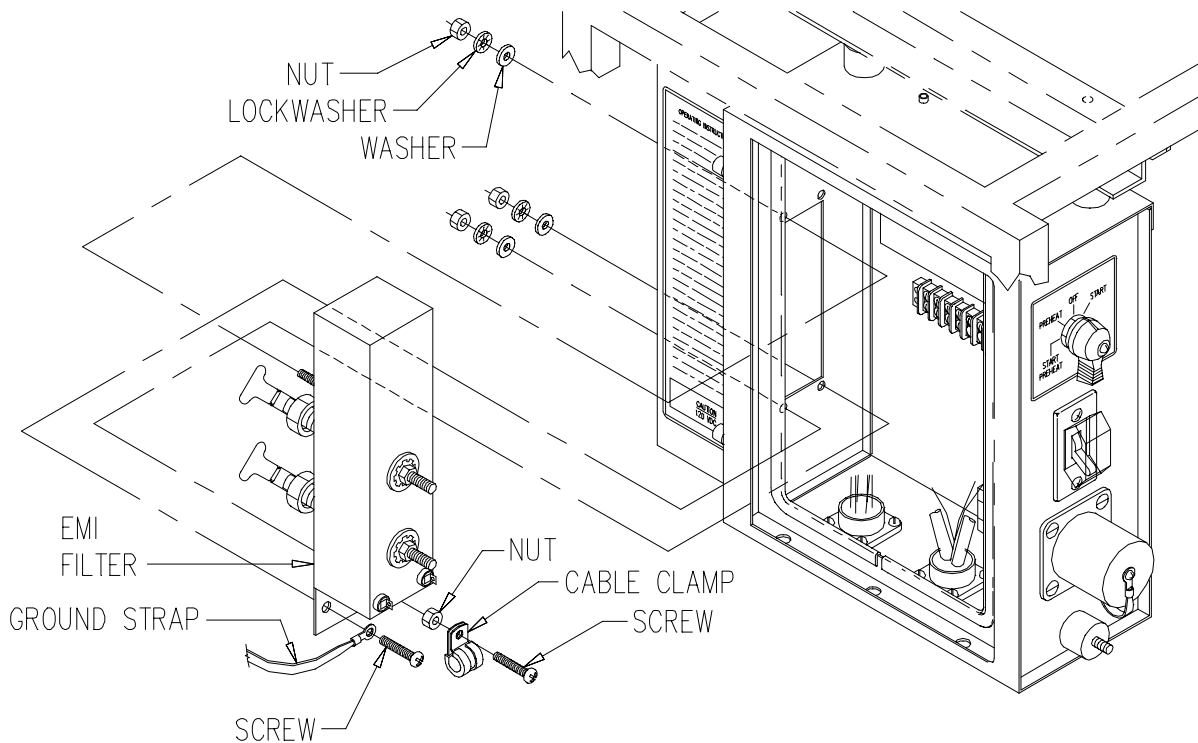

Figure 4-46. EMI Filter (MEP-531A)
- (1) Shut down generator set.
- (2) Release lug cover by turning two fasteners, open lug cover.
- (3) Disconnect load cables from EMI filter load terminals as necessary.
- (4) Release instrument panel by turning fastener, open instrument panel slowly.
- (5) Tag and disconnect two female quick-disconnects connected to bottom terminals on EMI filter (Figure 4-46).
- (6) Tag and disconnect one wire lead connected to "L" terminal and four wire leads connected to "N" terminal on EMI filter.
- (7) Remove screws, washers, lockwashers, and nuts securing bottom of EMI filter to control box. Note how instrument panel ground strap and wiring cable clamp are captured under the mounting hardware.
- (8) Remove nuts, lockwashers, and washers securing top of EMI filter to control box.
- (9) Remove EMI filter.
- (2) Release instrument panel by turning fastener, open instrument panel slowly.
- (3) Release lug cover by turning two fasteners, open lug cover.
- (4) Disconnect load cables from EMI filter load terminals as necessary.
- (7) Using multimeter set for ohms, check for open circuit across two upper EMI filter terminals "L" and "N". If not open, EMI filter is defective.
- (8) Repeat step (7) for "L" and "N" terminals that connect to the GFCI convenience receptacle (lower).
- (9) Using multimeter set for ohms, check for closed circuit across the lower "L" terminal (that connects to GFCI convenience receptacle) and load terminal "L". If not closed, EMI filter is defective.
- (10) Repeat step (9) for the lower "N" terminal (that connects to GFCI convenience receptacle) and load terminal "N".
- (11) Reconnect wire leads as tagged.
- (12) Close and secure instrument panel.
- (13) Reconnect load cables to EMI filter load terminals as necessary.
- (14) Close and secure lug cover.
- (1) Install EMI filter (Figure 4-46) in control panel cutout with mounting studs on filter through holes in panel.
- (2) Secure top of EMI filter to control panel with nuts, lockwashers, and washers.
- (3) Secure bottom of EMI filter with screws, washers, lockwashers, and nuts. Be sure to secure instrument panel ground strap and cable clamp as noted during removal.
- (4) Connect one wire lead to "L" terminal and four wire leads to "N" terminal on EMI filter as tagged. Remove tags.
- (5) Connect two quick-disconnects to bottom two terminals on EMI filter as tagged. Remove tags.
- (6) Connect load cables to EMI filter load terminals, if applicable.
- (7) Close and secure instrument panel and cover.